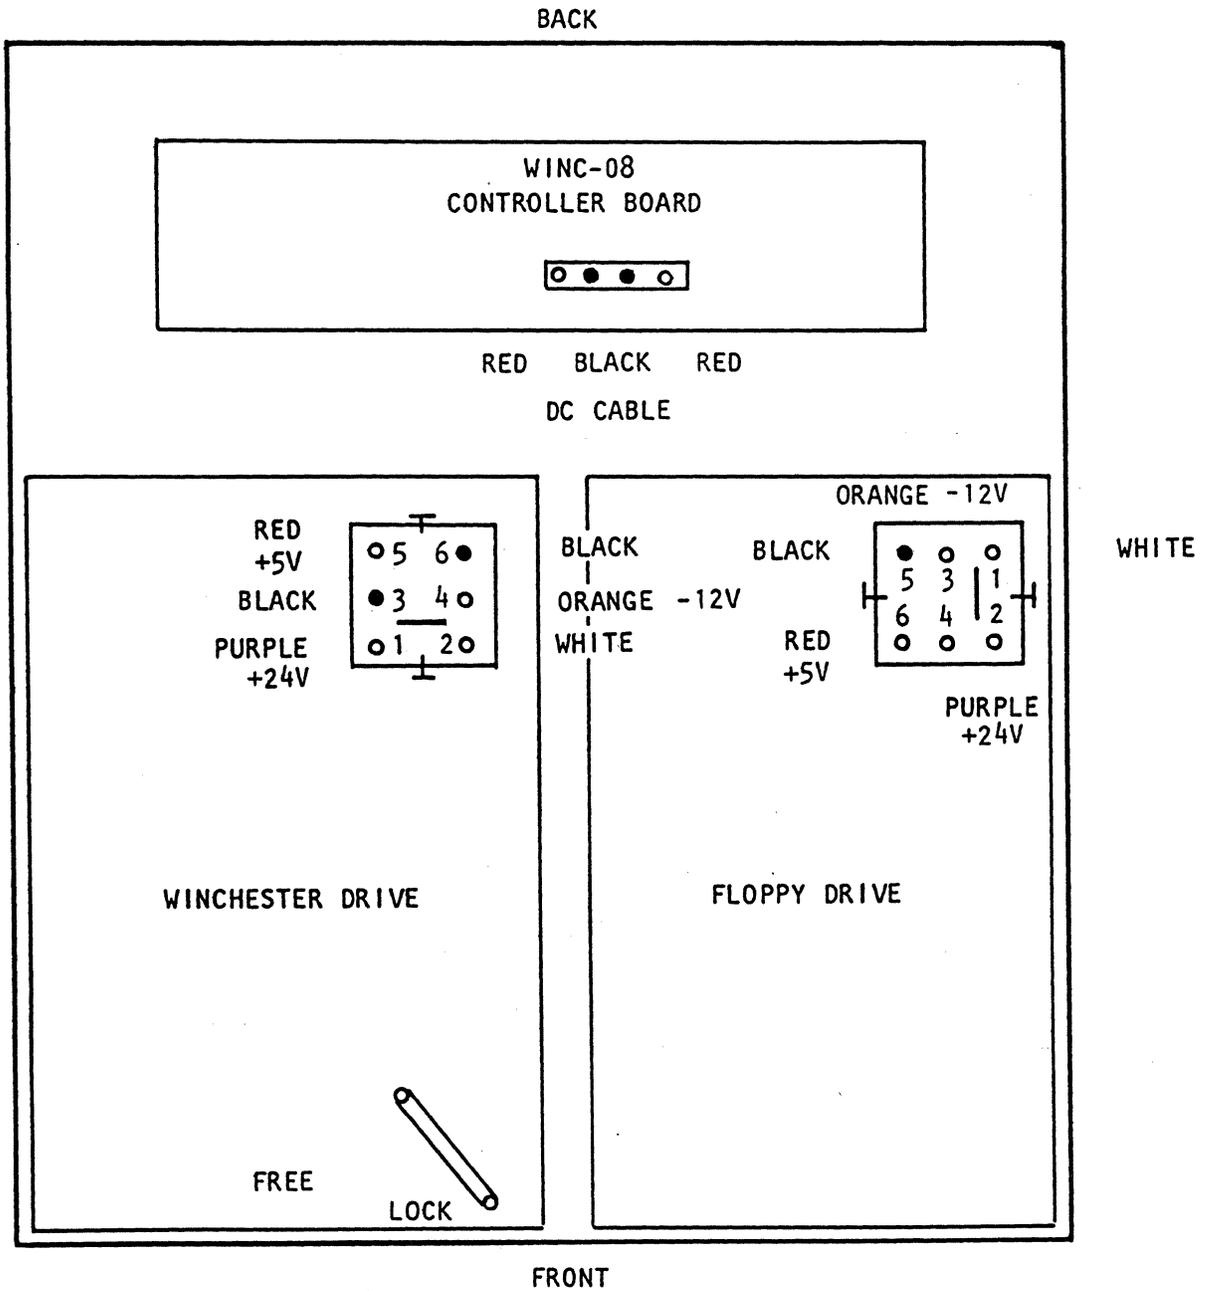
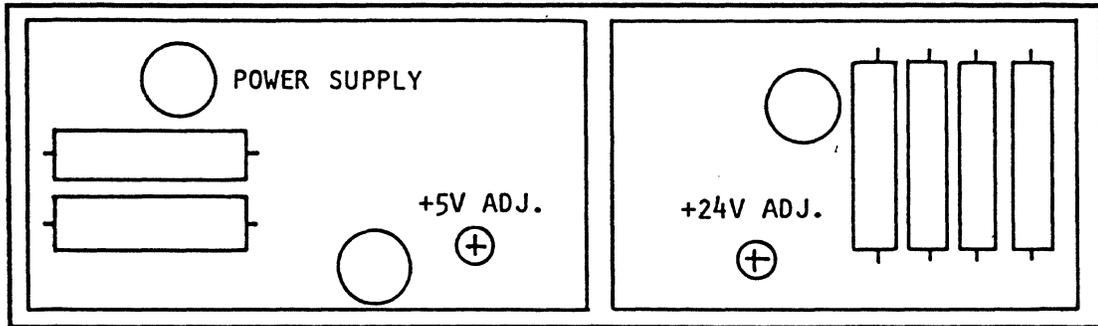

Figure 4-1. Top View of WINC-08
Figure 4-2. Adjustment Potentiometers
A procedure for checking and adjusting the +5 V, -12 V, and +24 V voltages from the power supply is as follows (refer to Figure 4-1):
- b. To adjust +5 V, place the red (+) lead from the meter on the red +5 VDC wire and the black (-) lead to the black DC wire (GND) as shown in Figure 4-1. Adjust meter reading to +5 VDC (+5%) using potentiometer shown in Figure 4-2.
- e. To adjust +24 VDC place the red (+) lead from the meter on the DC drive connector, purple +24 VDC wire, and the black (-) lead to the DC drive black wire as shown in Figure 4-1. Adjust meter reading to +24 V (±10%) using potentiometer shown in Figure 4-2.